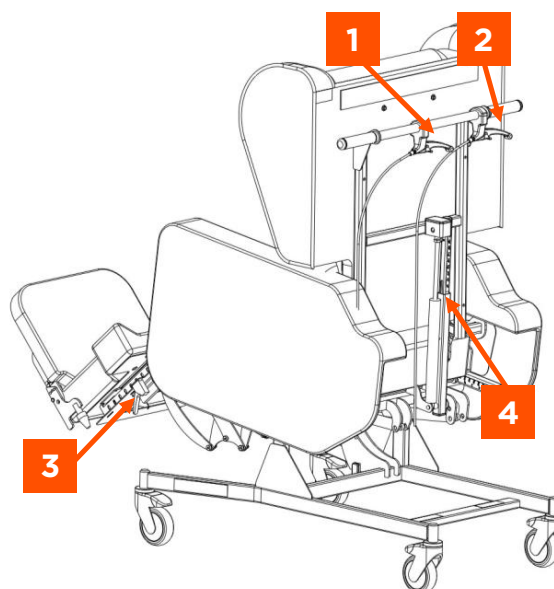

FIGURE 26 - Overview of controls
1. Backrest - The backrest can be adjusted between 90 degrees and 130 degrees from the seat angle; see page 5 for a diagram of this. The backrest lever (Fig 26, Item 1) is used to adjust this angle. The backrest is also fitted with a lockout slide (Fig 26, Item 4.) that can be used to restrict the use of the backrest angle adjustment.
2. Tilt-in-Space - The tilt-in-space position can adjust the seat angle from 7 degrees to 37 degrees from the horizontal position; see page 5 for a diagram of this. The Tilt-in-space lever (Fig 26, Item 2) is used to adjust this angle.
4. Legrest – The legrest can be adjusted between 75 degrees and 160 degrees; see page 5 for a diagram of this. The Legrest lever (Fig 26, Item 3) can be used to adjust this angle.
4. Pull the locking catch on the backrest lever, then pull the main lever (Fig 26, Item 1). Move the backrest to the desired measurement. The backrest angle measurement can be read off the scale at the top of the backrest adjustment slide (Fig 27, Item 3).
2. Pull and hold the tilt-in-space lever (Fig 26, Item 2) and move the chair to the desired tilt-in-space angle.
6. Pull and hold the tilt-in-space lever (Fig 26, Item 2) and move the chair forward to the forward tilt position.
2. Locate the legrest adjustment lever (Fig 26, Item 3).